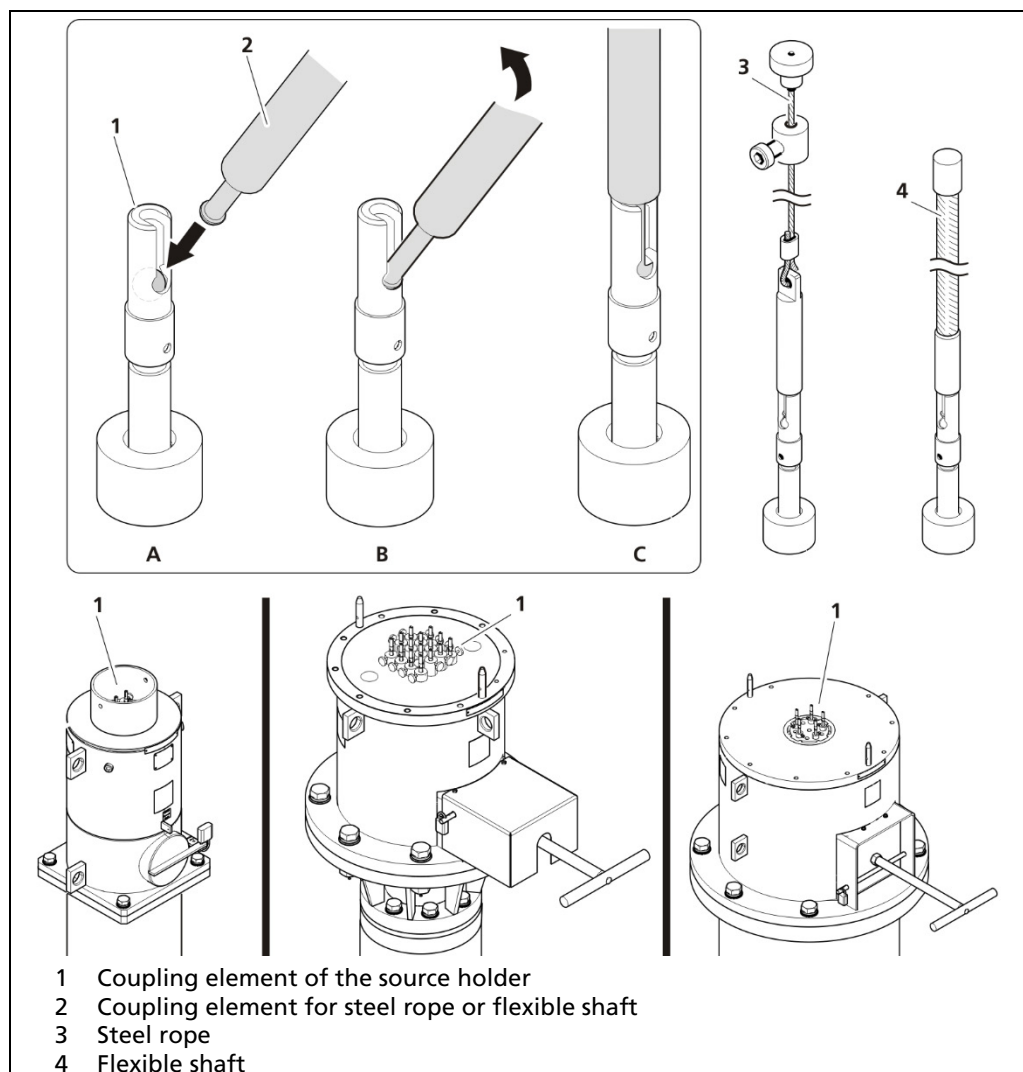

Fig. 14 Latching the steel rope or the flexible shaft into the source holder
4. Latch (Fig. 14, item 1) one steel rope or one flexible shaft (Fig. 14, item 2) at each source holder.